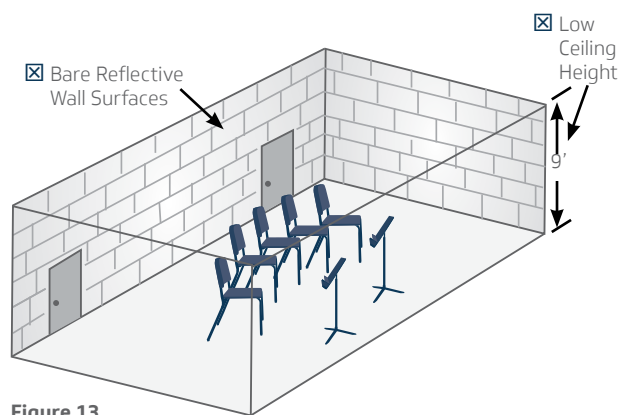

Figure 13
- Evaluate the surfaces in your room. Are you surrounded by hard reflective materials on your ceiling, floor and walls (figure 13)? If you are, excess loudness is just one of a number of problems you may be hearing (also see echoes and standing waves on page 18).